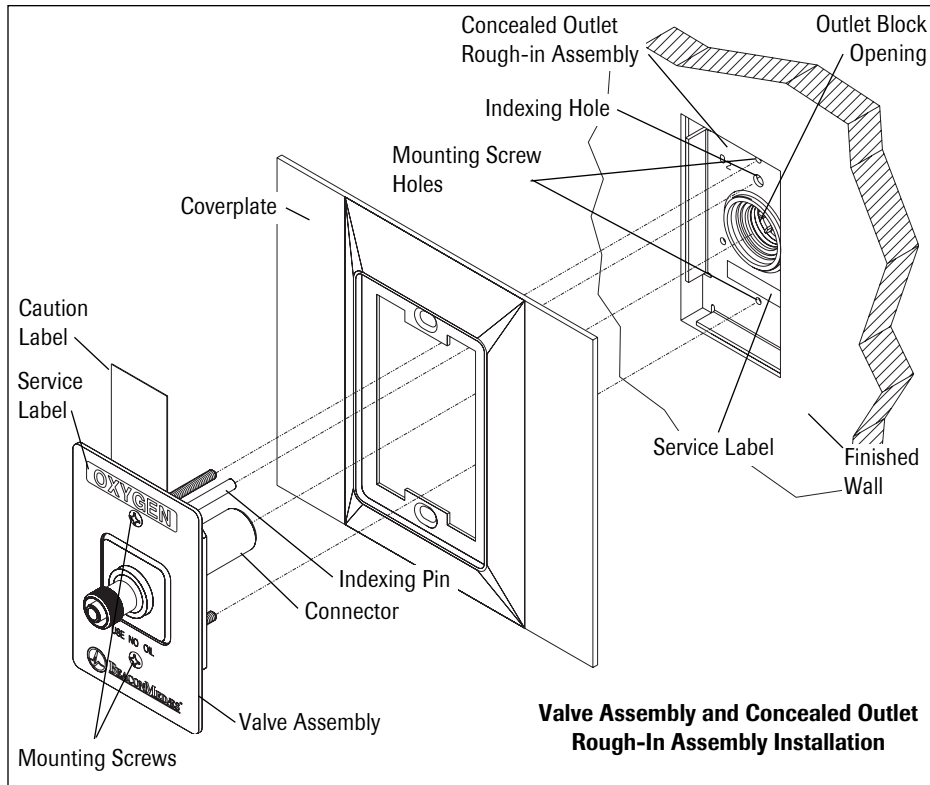

Figure 1
3. Installing the coverplate and valve assembly (Figure 1):